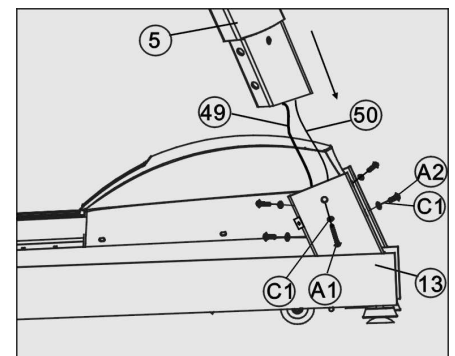

Figure 2
A. Pull out the Signal wire (49) and Speaker wire (50) from the lower side to upper side of the right upright tube with the Accessorial wire (30). (see figure 2)
B. Insert Right upright tube (5) to base frame (13), and attach four Half-round bolts M8X16 (A2), one Half-round bolt M8X40 (A1), and five Flat washers  $\phi$ 8(C1), Do not tighten all parts provisionally (see figure